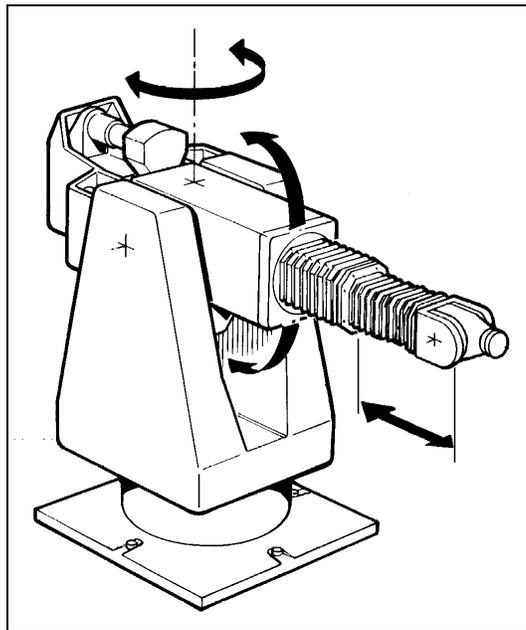

Figure 8-6
- ◆ **Spherical Robots:** A spherical robot, shown in Figure 8-6, has two revolute joints and one prismatic joint and is designated as RRP. Horizontal Articulated (SCARA) Robots: